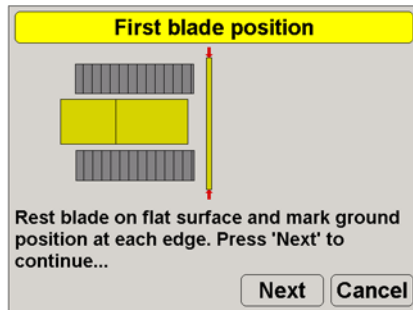

Figure 4-9. Calibrate Sensor – First Blade Position Dialog Box
3. Press **Next** (Figure 4-9).